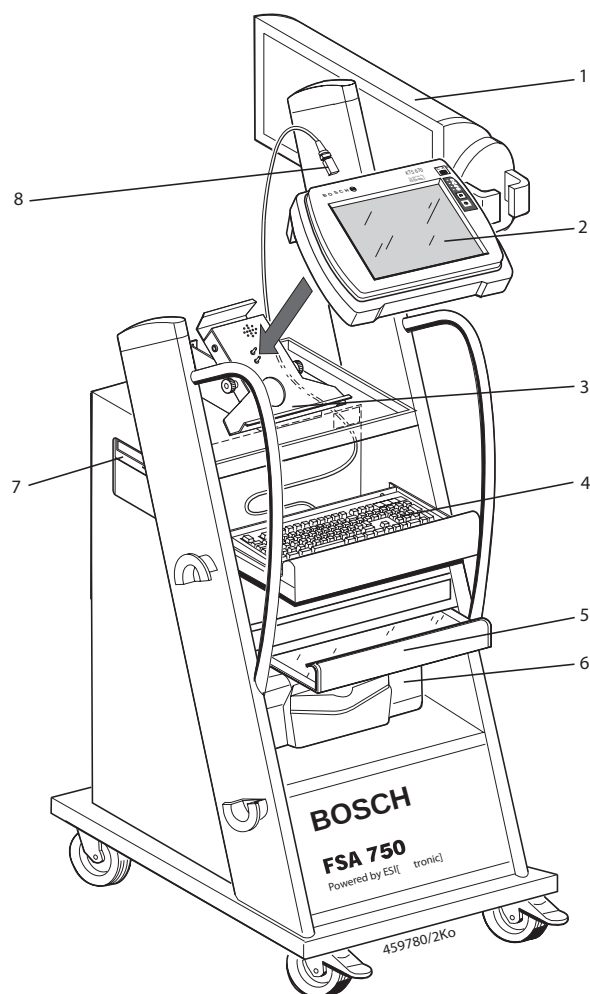

Fig. 1: FSA 750 front view
3. Mount KTS 670 straight onto charger station (Fig. 1; Pos. 2, 3).
4. Fit USB connecting cable to KTS 670 (Fig. 1; Pos. 7).
5. Place printer into trolley (Fig. 1; Pos. 5).